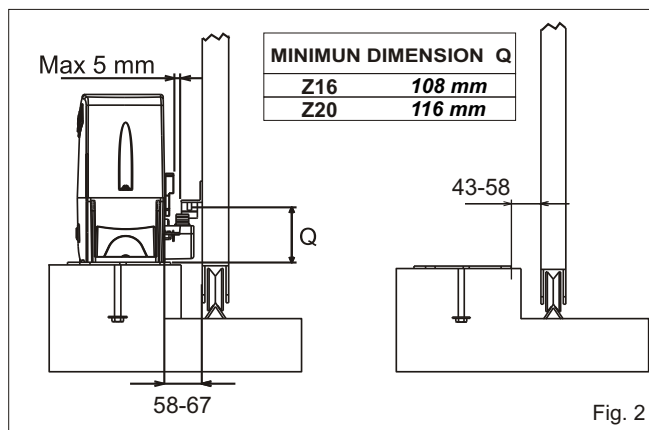

Fig. 2
3. Before concreting in the plate, make sure that it is perfectly leveled and that the distance of 50-55mm as shown in Fig. 2 is respected.